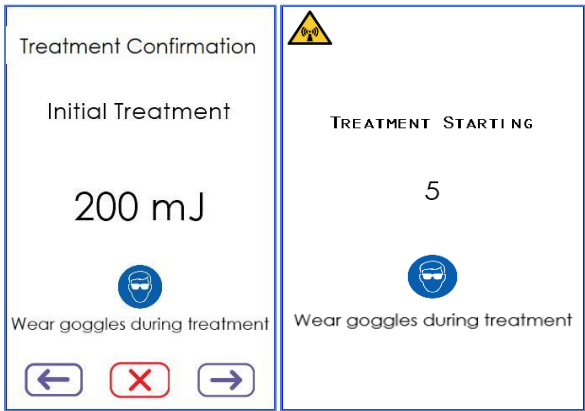

Figure 9 Treatment Confirmation and Start Delay
- Mark this distance on the floor (see Figure 9).
When the treatment is confirmed, the user will be taken to a treatment confirmation page which displays the entered dose for confirmation and warns the user to put on goggles. After confirming the treatment, there will be a 5 second delay to allow the user to position themselves. (see **Figure 9**)